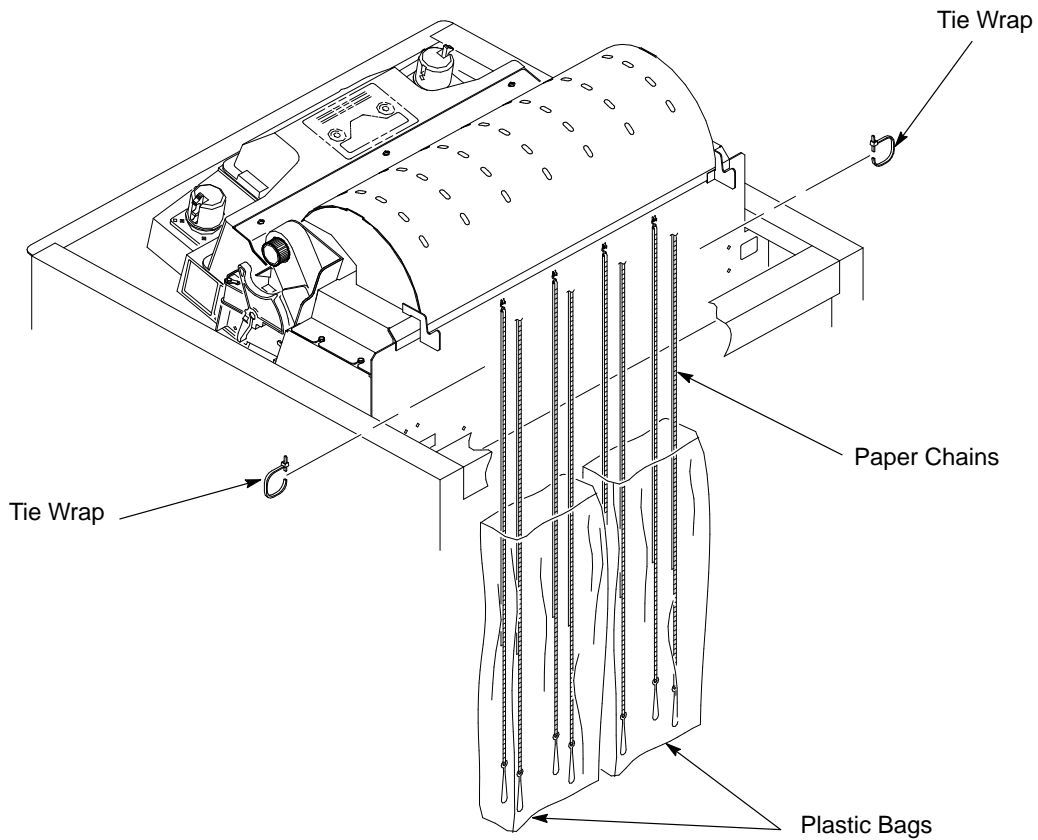

Figure 2–6. Releasing the Paper Chains
2. Cut the tie wraps and release the paper chains from the bags at the top rear of the printer frame. Remove the tie wraps and bags. (See Figure 2–6.)